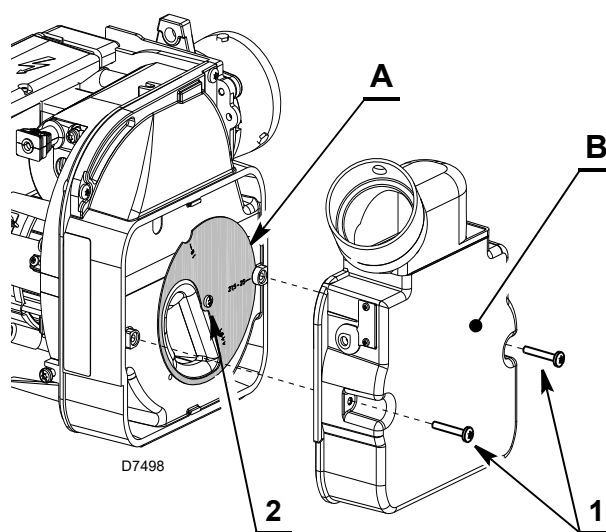
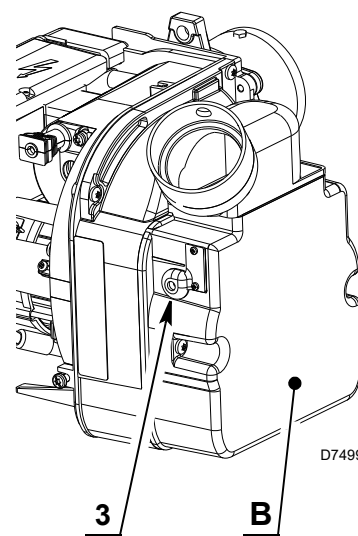

Fig. 19
Fig. 20
The air setting is performed by mean of two independent dampers (see Fig. 19 and Fig. 20).
- remove the secondary air damper B)(Fig. 19) loosing the screws 1).
Tuning of this device is possible acting of the screw 3)(Fig. 20).